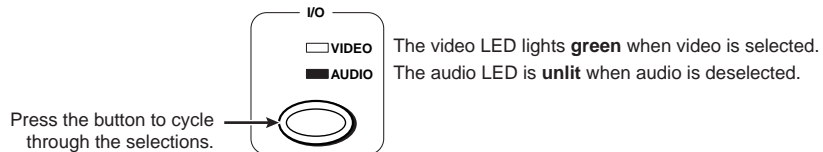

Figure 3-9 — Select video only
2. **TPX 88 A only** — To select video only for the tie, if necessary, press and release the I/O button until only the video LED lights (figure 3-9).